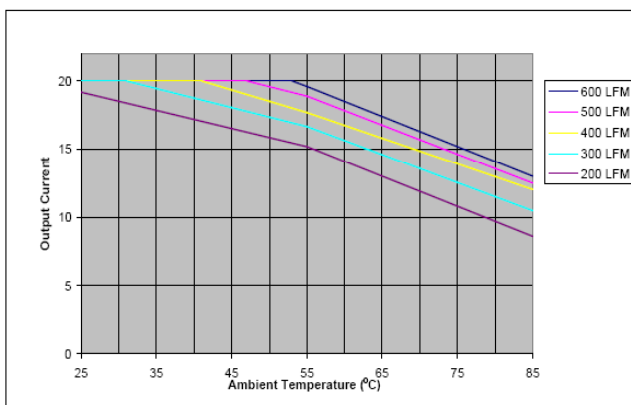

Figure 9: Output load current vs. ambient temperature curves at $V_{in} = 48 \text{ V}$ for openframe version ALQ20B48x-x series.
- Output derating applies at elevated temperature. See Figures 9 and 10.